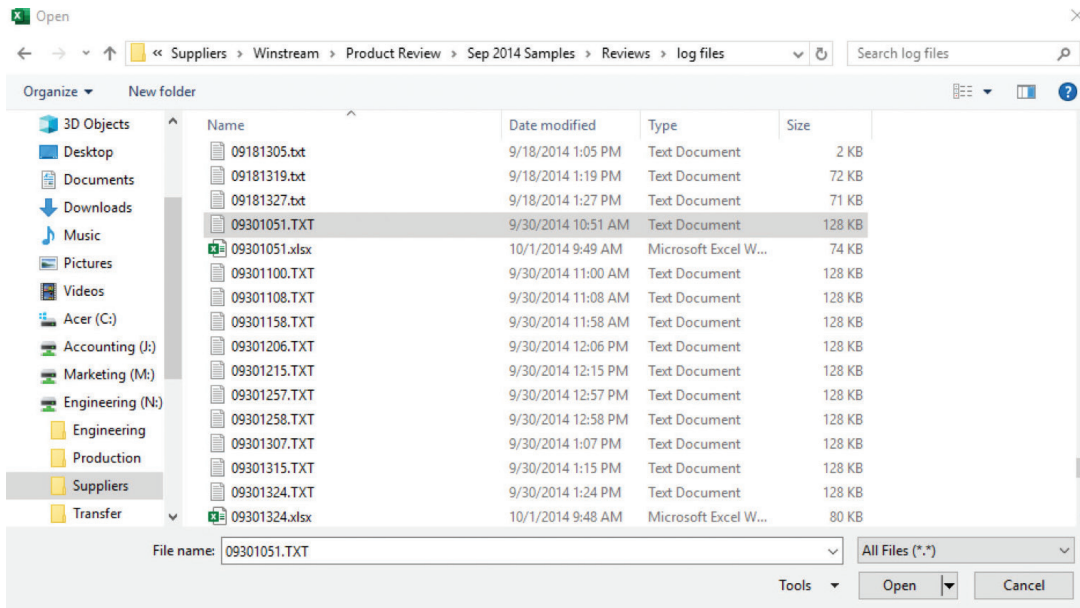

Fig 5.1 Screen Showing .txt Files
- All Text Files (.txt) will be displayed. The screen will look like Fig 5.1.
- Click "Open" Button (*Bottom right corner of Fig 5.1*).